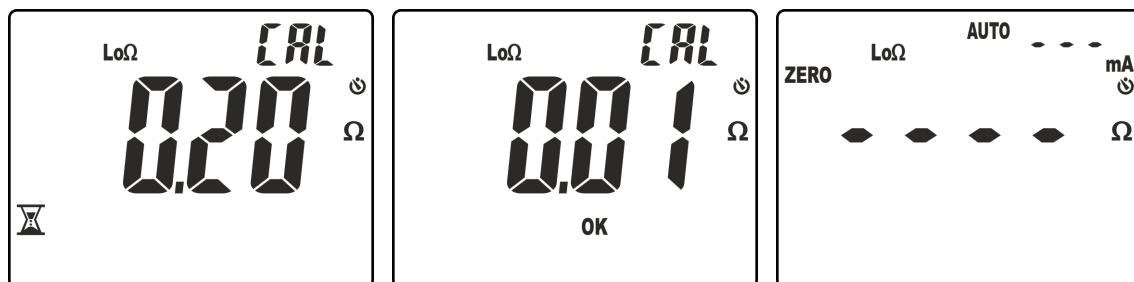

Fig. 33: Results of a correctly performed zeroing
4. The instrument performs the first measurement, detecting the resistance of the test cables (see Fig. 33 – left side). If the compensated value (ZERO) is $\leq 5.00\Omega$, the instrument keeps it saved and carries out the following test by performing a second
measurement and comparing this new value to the compensated one. If the difference between the values is $\leq 0.01\Omega$, calibration is confirmed and the message "OK" is displayed (see Fig. 33 – middle). Subsequently, the instrument goes back to the measuring screen with the message "ZERO" displayed to indicate that cable compensation is present.